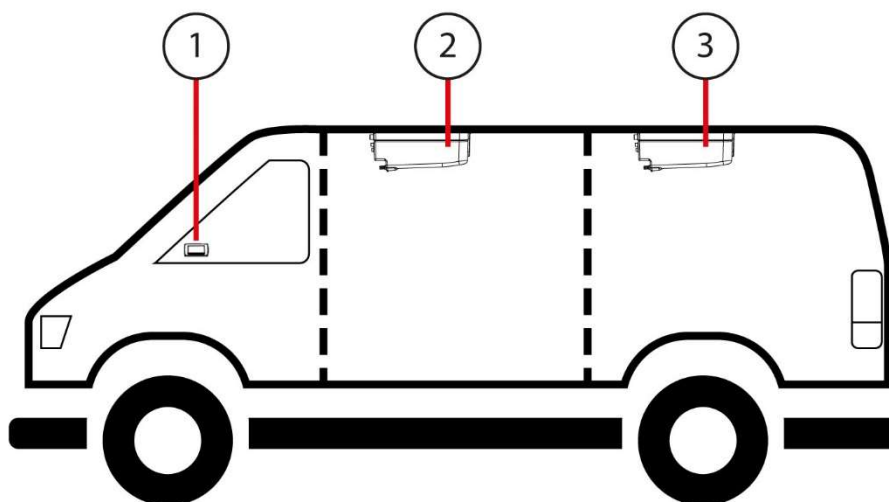

Figure 6 - Multi temperature unit evaporators
The Multi temperature unit allows the management of two compartments at a different temperature. The unit is equipped with two evaporators (2 and 3, Figure 6) and a dedicated in-cab controller (1), which manages the two temperatures independently of each other. The heating function is also included in the operating logics.